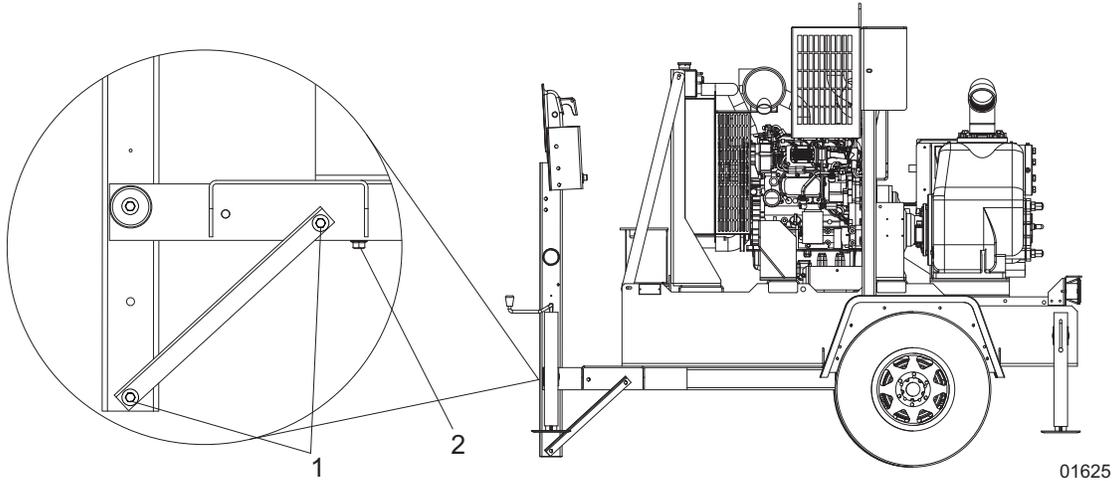

Figure 5 - Removing the Shipping Brace
2. Remove the mounting hardware securing the tongue shipping brace to the trailer frame. Refer to #1 in Figure 5.
3. Remove the shipping brace and slide it into the trailer tube opening. Secure the brace to the trailer with the bolt located on the underside of the trailer and a new nylon locking nut. Refer to #2 in Figure 5.